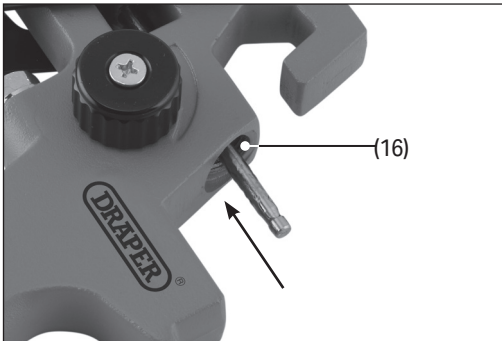

Fig. 5
6. Ensure that the new fluid needle is free from debris and insert it point-first into the needle chamber through the back of the spray gun body (Fig. 5).